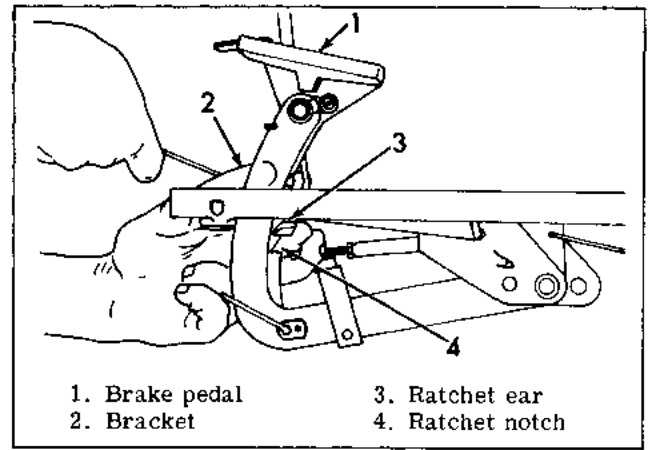

Figure 2G-39. Adjusting Mechanical Brake Release
#### DISASSEMBLING AND REASSEMBLING MECHANICAL BRAKE CROSS-SHAFT (Figure 2G-37)
#### MECHANICAL BRAKE LOCKING RATCHET (Figure 2G-39)
See Figure 2G-39. Loosen, but do not remove pedal bracket-to-floor panel nuts with wrench. Depress brake pedal and tilt foot pedal (1) forward. Shift bracket (2) so that ear (3) engages one of notches (4). Fully tighten nuts while holding in this position.
#### DISASSEMBLING BRAKE PEDAL (Figure 2G-36)